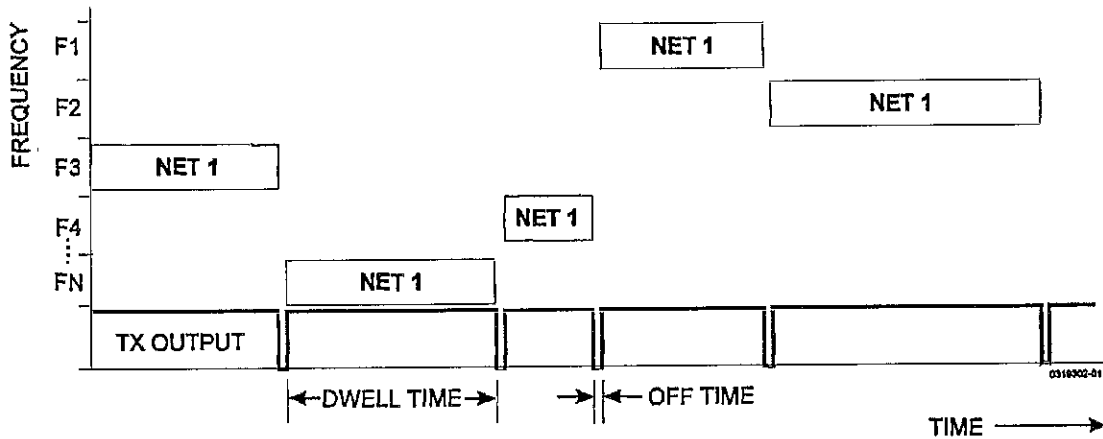

Fig 2 HAVE QUICK frequency hopping
17 HAVE QUICK (HQ) provides anti-jam (AJ) communications through the use of frequency hopping. In operation, the radio changes (hops) to a different operating frequency at irregular intervals, as shown in Fig 2. The frequency values and their timing are synchronised across all radios operating in HQ mode. In this way, the radios maintain communications whilst making it difficult to jam or monitor the communications.